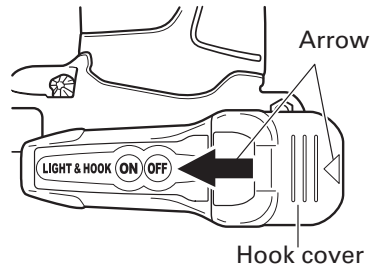

Fig. 11
Remove the hook cover by pushing in the direction of the arrow. (Fig. 11)
- (3) Align the indentation in the hook main body with the protuberance of the hook cover, press the hook cover in the direction opposite to that of the arrow shown in Fig. 11 and then tighten the screw.